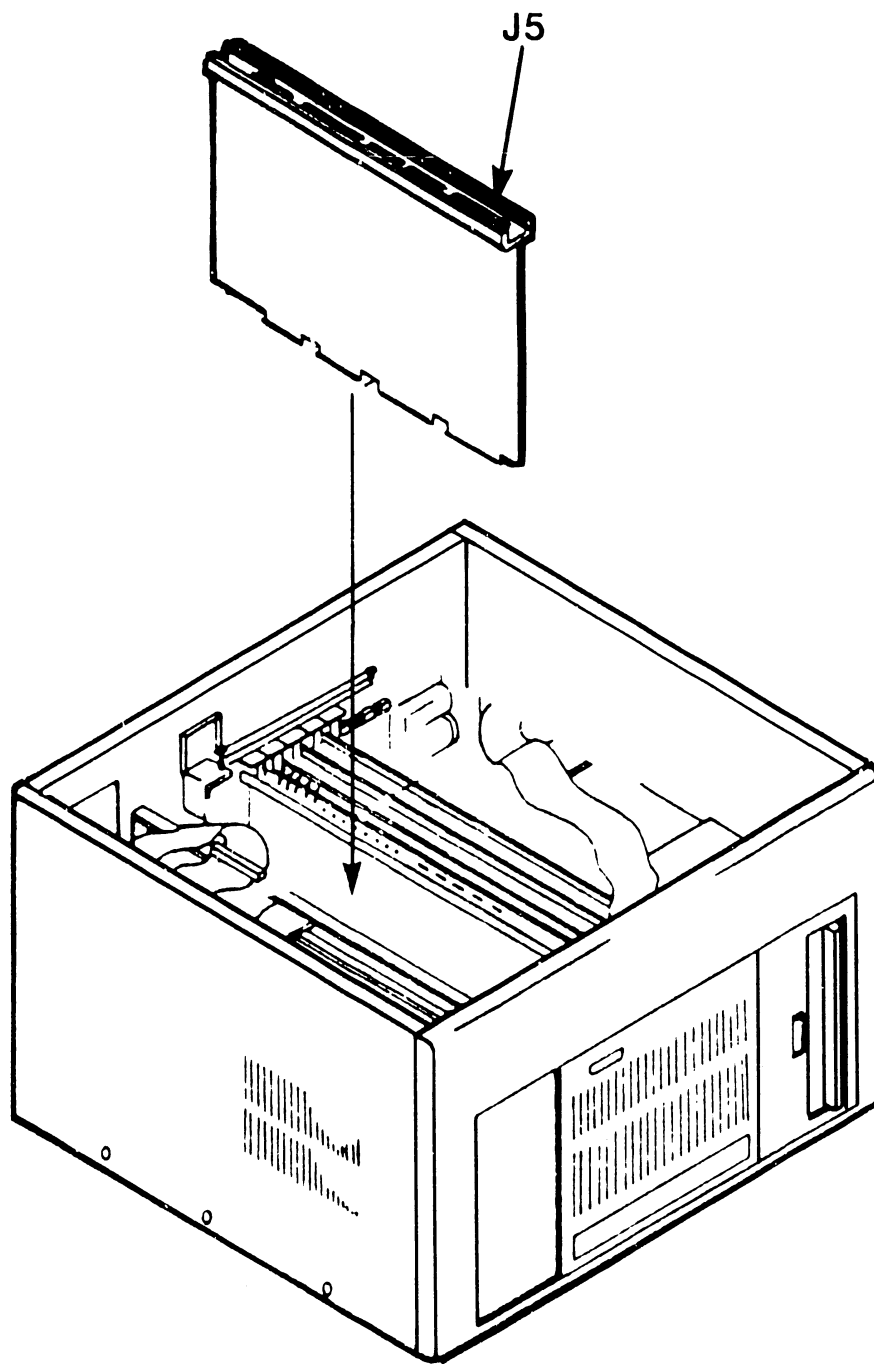

Figure 4-18 TC Controller Installation into 105/115/125A/130A Master
3. Install the TC controller into the I/O slot furthest to the left, when viewing the unit from the front (see Figure 4-18). The board connectors on the motherboard have card guides to ease insertion, and card keys to center the boards.